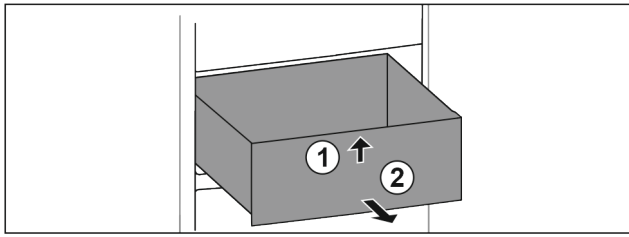

Fig. 138
- Lift up drawer at the front. Fig. 138 (1)
- Remove drawer to the front. Fig. 138 (2)